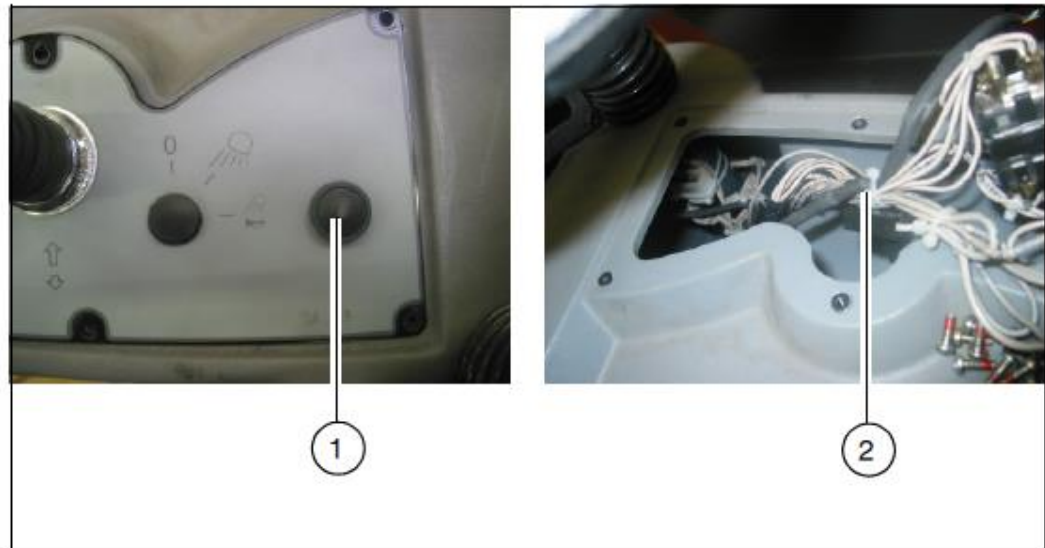

Fig.2
1. Feed the button (Fig. 2/1) through the cutout in the operating panel. Screw the button in place.
2. Fix the cable from the button to the existing cable harnesses (Fig. 2/2) using cable ties (the cable from the button must not be under strain).